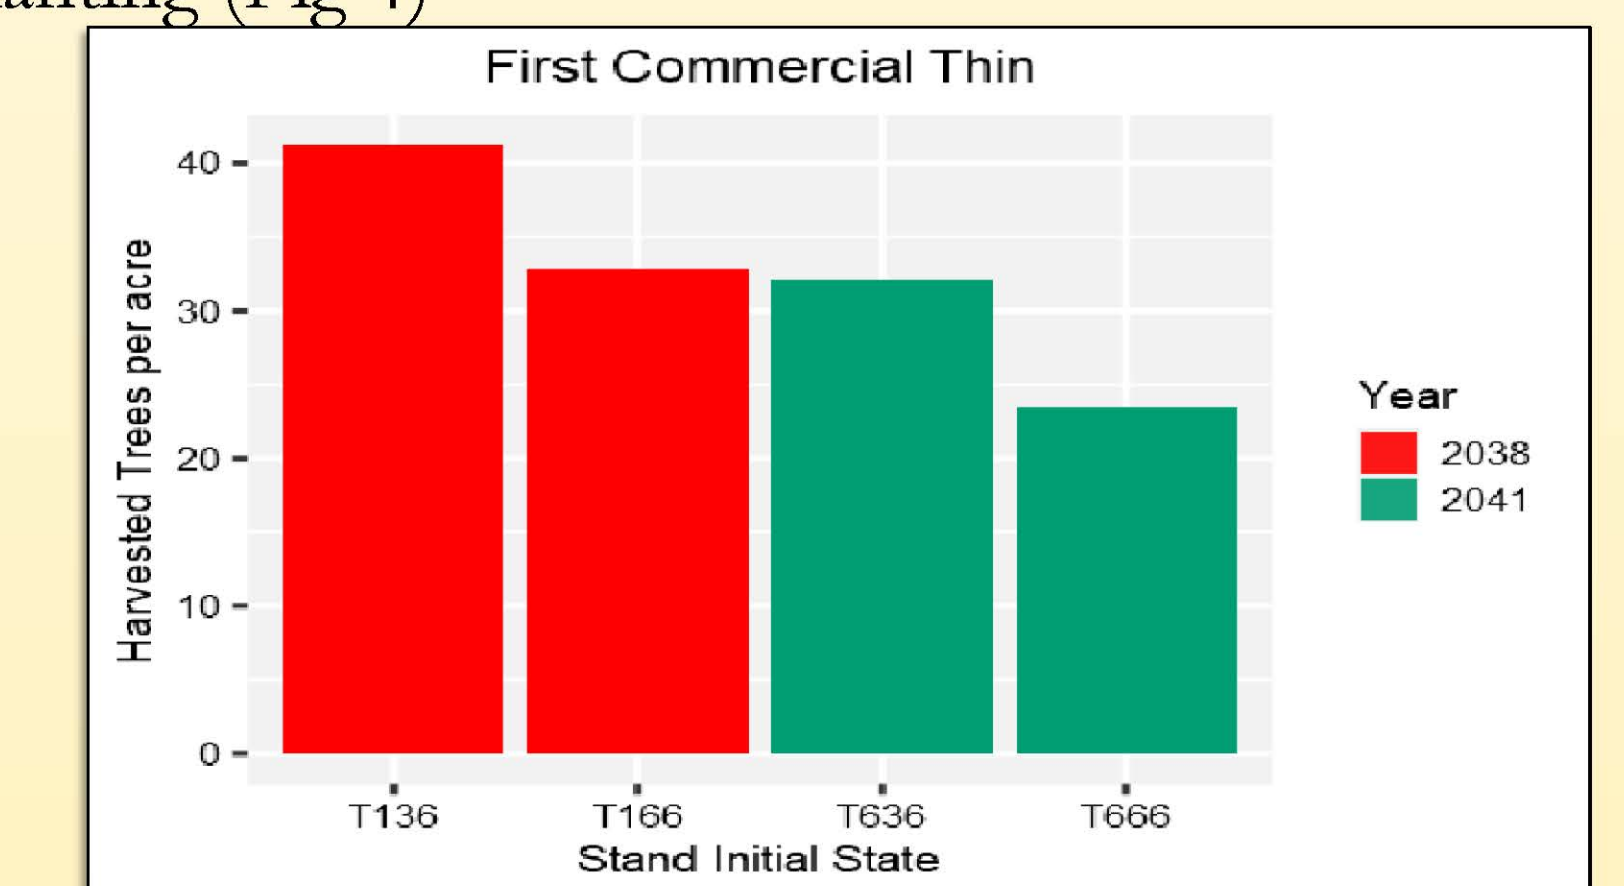

Fig 4 : DBH Class of trees harvested and residuals at 1st CT
- 1st Commercial Thin : Before thin CCF=110; Stand Age 35 was the year of first pre commercial thin for the 10 x 10 planting (Fig 4)